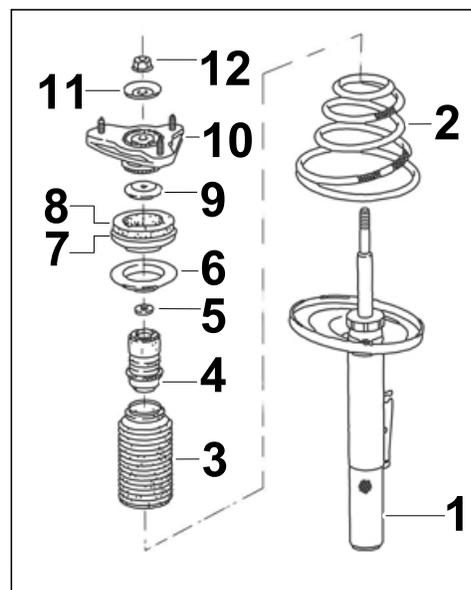

Figure 1
2.1 Assemble spring strut as follows (see also ⇒ *Figure 1*):